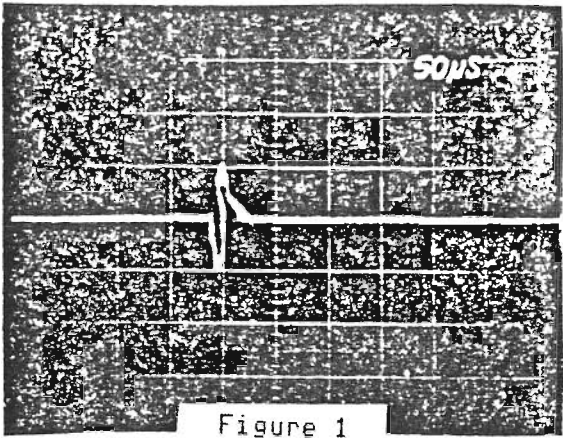

Figure 1
f. Connect one probe to IP1 and the other to IP2. Ground probes to the P.C.B.. Set the inputs to AC. Add and invert channel B (2). Set vertical deflection to 500 mV/division.
g. Observe the timing between the start of the sweep and the data pulse. This should be 200 \pm or \pm 100 μ sec. If the timing is not within tolerance, continue on with the adjustment. Refer to Figure 1.